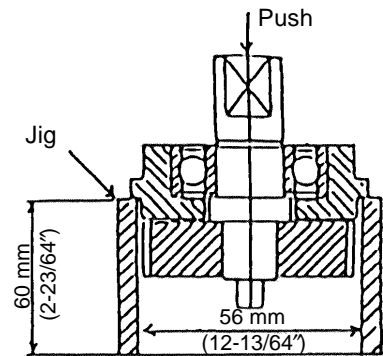

Fig. 9
- (4) Separate Spindle Gear ② (②) from the Bearing Holder ③ (③):
As illustrated in Fig. 9, support the Bearing Holder ③ (③) with an appropriate tubular jig, and push down on the end of the Spindle to separate the Spindle Gear ② (②) from the Bearing Holder ③ (③).
- (5) Remove the Armature ②④ (②⑤):